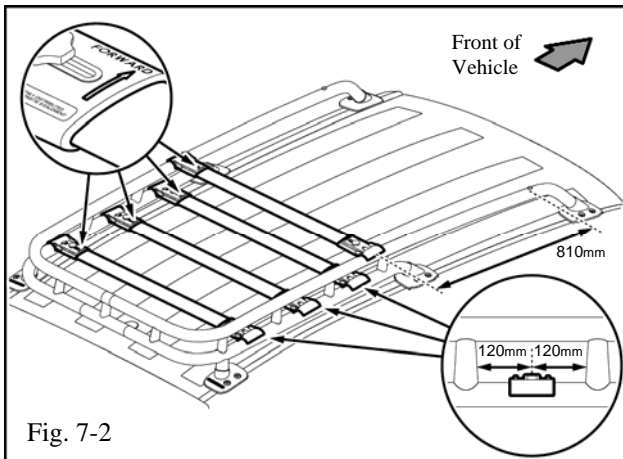

Fig. 7-2
- ⚠ (b) Place crossbars as shown in Fig. 7-2 between rails with arrow to front of vehicle.
- (1) Note “Forward” arrow for front of vehicle orientation. (Fig 7-2)
- (2) Top crossbar should be located rearward of front siderail stanchion. (Fig 7-2)
- (3) Lower crossbars should be centered between support posts. (Fig 7-2)